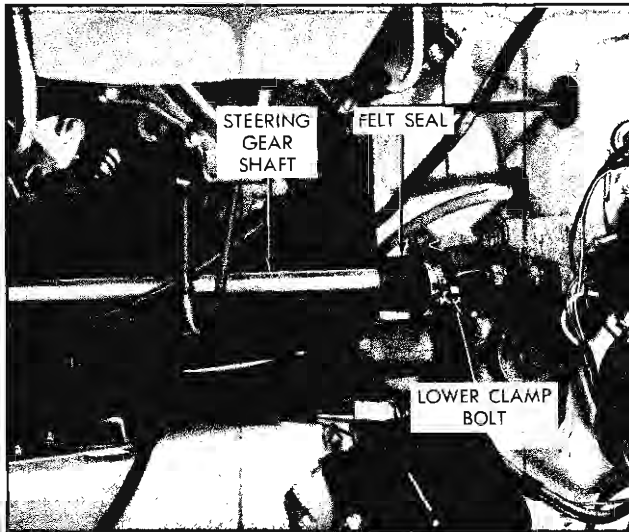
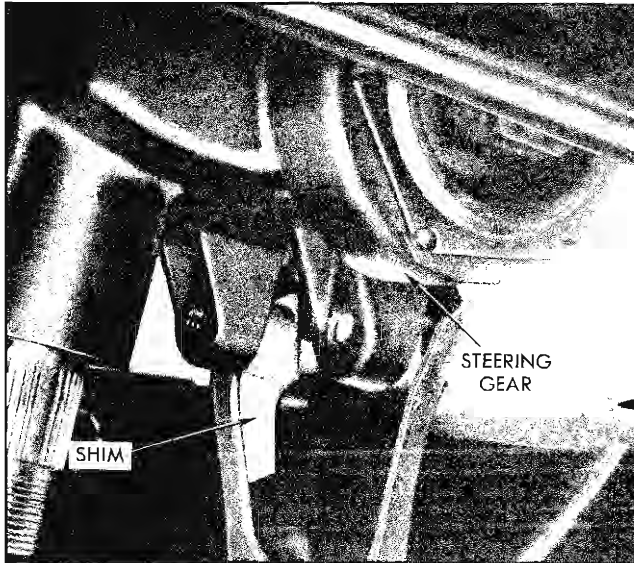

Fig. 9-9—Steering Shaft and Jacket
Fig. 9-14 Steering Gear Housing Shim
2. Loosen lower steering column jacket clamp (Fig. 9-9).
3. Loosen steering column bracket to make certain column is not sprung due to misalignment. If misaligned, shim at steering gear housing to frame bolts and tighten bracket (Fig. 9-14).
1. Install shaft, with felt seal and plastic collar, (Fig. 9-9) into steering column and secure gear to side rail with three bolts and spacers. Torque bolts to 70-90 lb. ft. Use shims as necessary to align shaft with steering column jacket (Fig. 9-14).